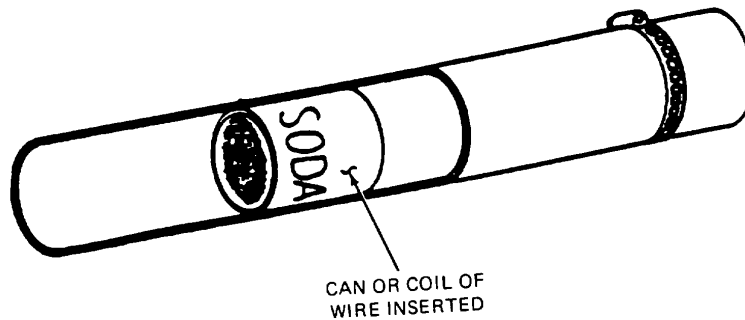

Figure 6-8. Reinforce Collapsed Hose.
- (1) Gain access to hose.
- (2) Drain coolant into container for reuse.
- (3) Loosen and remove clamp from one end of the hose.
- (4) Insert a can with ends removed or bent wire into the hose (figure 6-8).